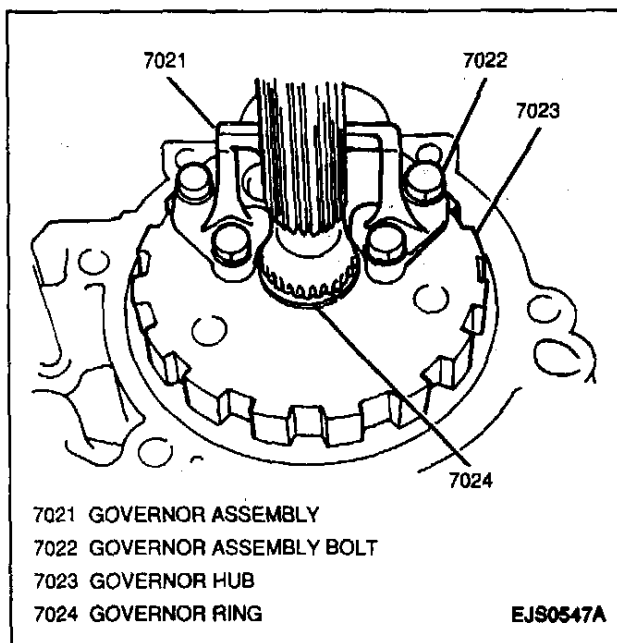

Figure 63—Governor Hub and Governor Ring
5. Governor ring and governor hub from transmission output shaft (Figure 63)
- 6. Governor hub onto transmission output shaft; secure with governor ring (Figure 63).